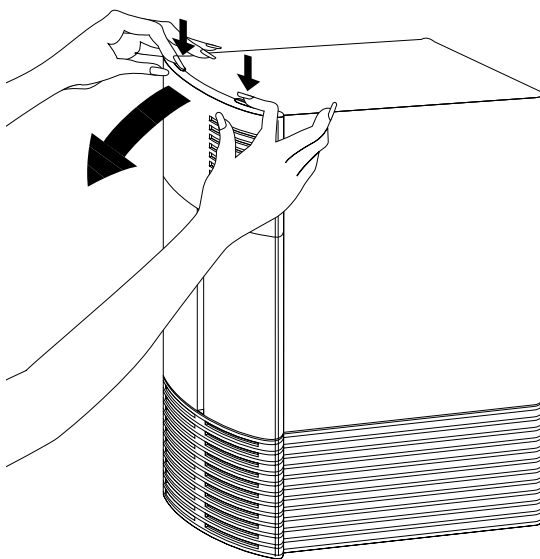

Figure 6-28 Replacing the Front Plastic Cover
- Tilt the panel up to the Indigo chassis, as shown in Figure 6-28. The cover snaps in place.